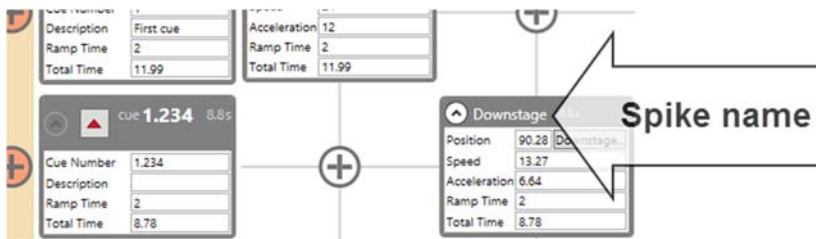

Figure 58
6. Notice that the *Turntable Movement* for *Cue 1.234* shows the *Downstage* **Spike** name for the target position (Figure 58).